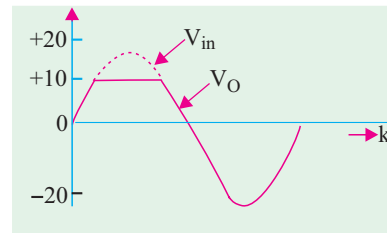

Fig. 52.24
**Solution.** It is obvious that the diode D and its 10V voltage drop across the 10k variable resistor act as positive clipper. Since the value of  $R \gg R_f$  (i.e. forward resistance of a diode), therefore, the output voltage is clipped at 10V as shown in Fig 52.24.